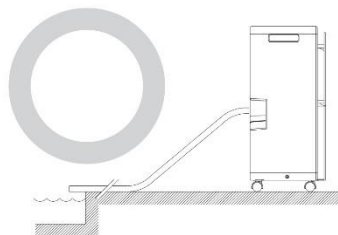

Fig. 2
- 3.6. Proper drainage of the condensation water when connecting the hose ! Make sure that the hose always has a slight slope (see fig. 2 and fig. 3).